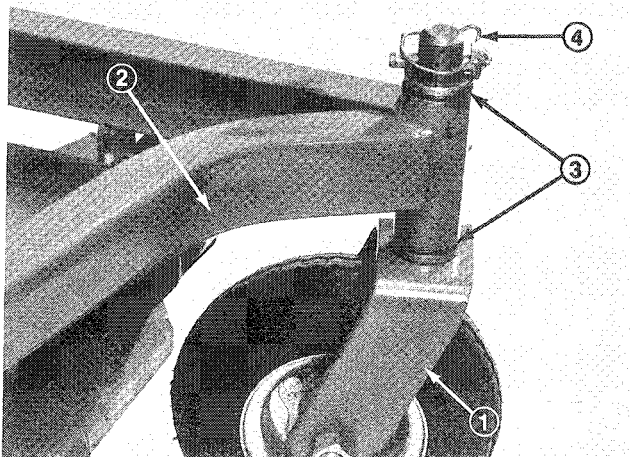

Figure 1
1. Place two thrust washers on each castor wheel shaft (Fig. 1).
2. Insert shafts into carrier frame. Install two more thrust washers and secure with Lynch Pin (Fig. 1).